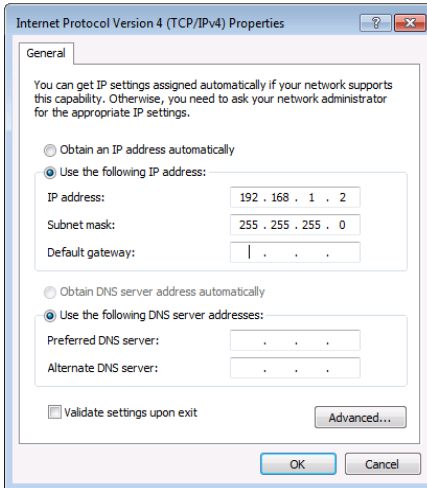

Figure 31: Internet Protocol Properties Window
6. Select **Use the following IP Address** for static IP addressing and fill in the details as shown in Figure 31.